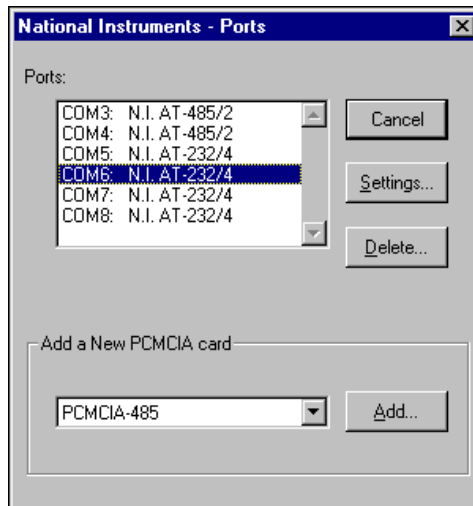

Figure 6-10. niports Configuration Utility
1. Select **Start»Settings»Control Panel** and double-click the **niports** icon. A list of National Instruments ports appears, as shown in Figure 6-10.